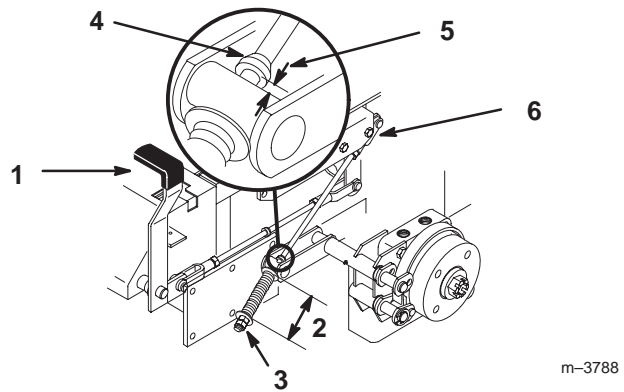

Figure 49
2. Measure the length of the spring. Measurement should be 2.75" (70 mm) between washers (Fig. 49).
3. If adjustment is necessary, loosen the jam nut below the spring and tighten the nut directly below the yoke (Fig. 49). Turn the nut until the correct measurement is obtained. Tighten the two nuts together and repeat on opposite side of unit.
6. Measure the distance between the trunnion roller and the collar on brake rod. Measurement should be 3/16"-1/4" (5-7 mm) (Fig. 49).
7. If adjustment is necessary, loosen the jam nut directly below the yoke. Turn the bottom rod until the correct measurement is obtained (Fig. 49). Tighten jam nut at yoke